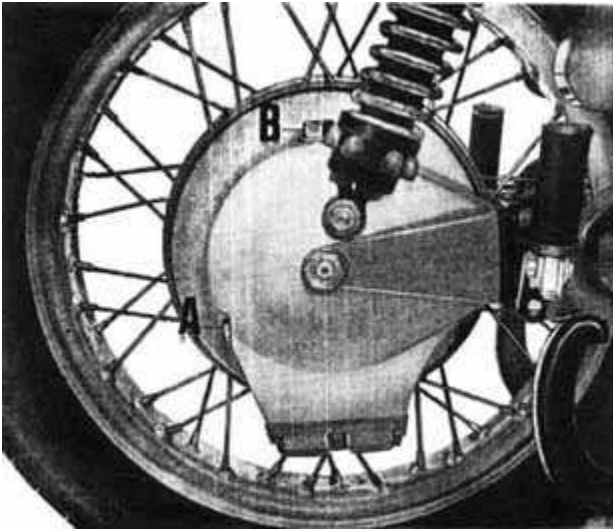

Fig. 14
**Lubrication of rear wheel drive** (See fig. 14) [return to index]